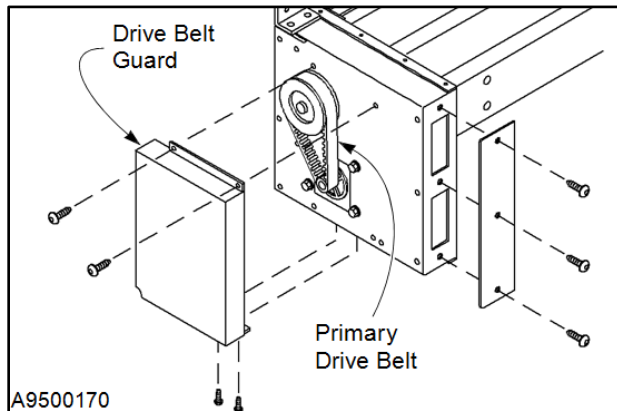

Figure 27
1. Inspect the primary drive belt. The belt should not be frayed, cracked, worn, or damaged. Also check for any damaged or missing teeth. Replace the drive belt if necessary. (See Figure 27.)